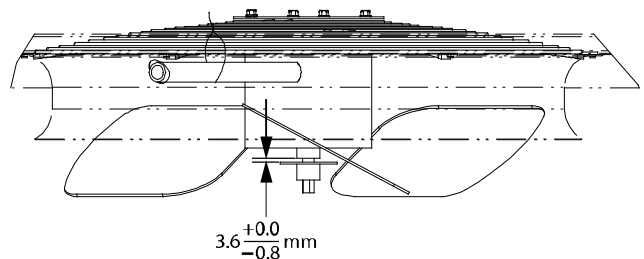

Fig. 40 - Condenser Fan Adjustment
4. Adjust fan height as shown in Fig. 40.